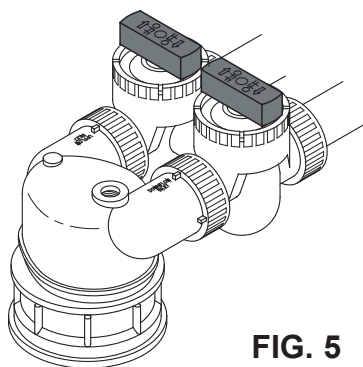

FIG. 5
- b. Place bypass valve(s) into BYPASS position. On a single valve, turn both handles perpendicular to water flow (See Fig. 5). On a 3 valve system, close the inlet and outlet valves, and open the bypass valve (See Fig. 4).